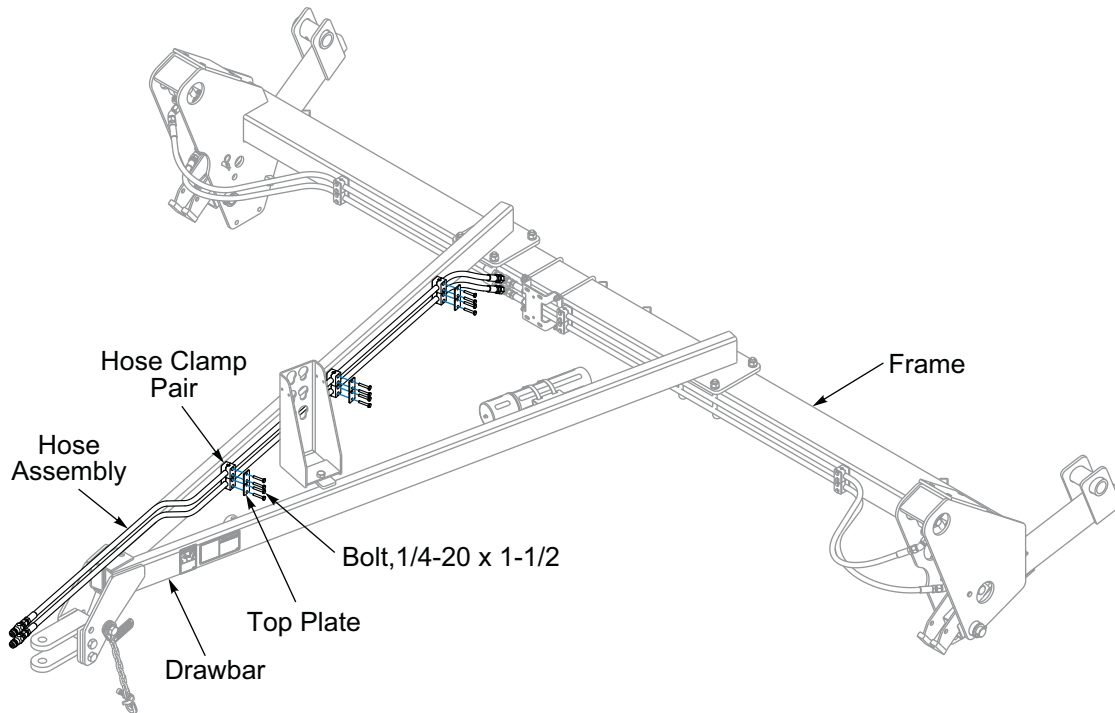

Figure 2-12: 8FT and 10FT Drawbar Hydraulics
2. Route the Drawbar Hydraulic Hoses along Drawbar toward the Tractor. Secure Hoses to Drawbar with Hose Clamp Pairs, Top Plate and 1/4-20 x 1-1/2 Bolt. **See Figures 2-12 and 2-13.**